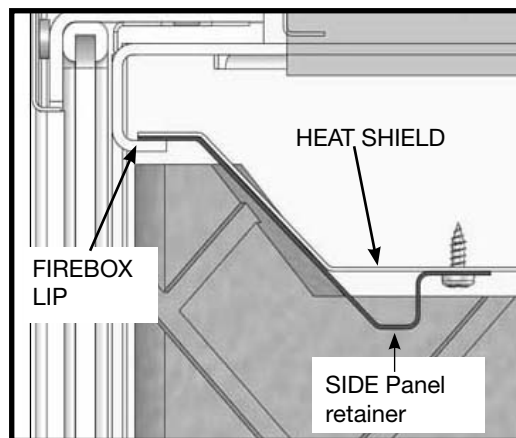
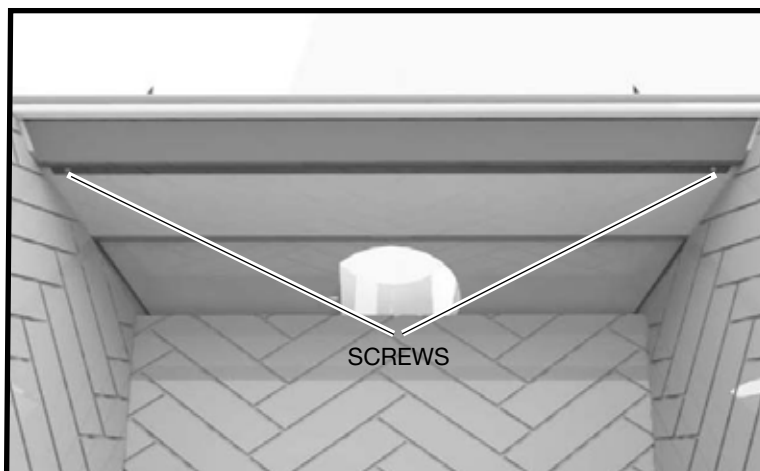

Figure 60: TC36D Side panel retainer.
Figure 61: TC36D Side panel retainer screw location.
1. Remove the Side Panel Retainer located on the underside of the firebox heat shield. The retainer slips between the lip of the firebox and the heat shield and is retained in place by two screws (Figure 60 and Figure 61).